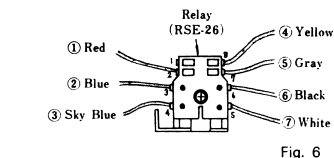

Fig. 6
3. Unsolder leadwires to relay (Nos. ①~⑦) as illustrated in Fig. 6.